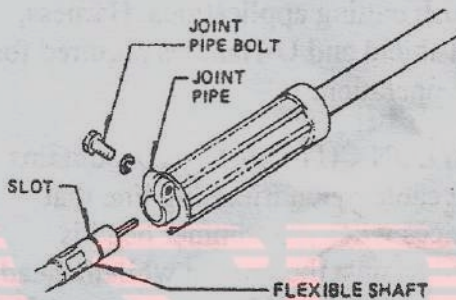

Fig. 1
1. Assembling drive shaft(Fig. 1)